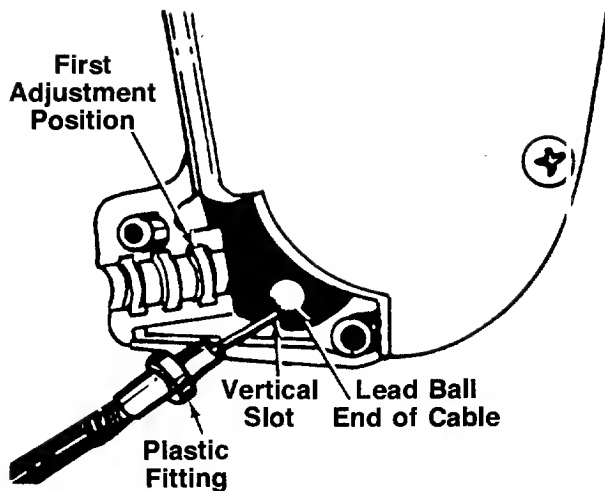

FIGURE 6.
1. Place the lead ball end of the cable into the fitting provided in the end of the clutch control lever. Slip the braided wire into the vertical slot as shown in figure 6.
3. Place the plastic fitting on the control cable into the first adjustment position in the clutch control housing. See figure 6.
When starting the unit for the first time, face the mower against a solid object such as a wall, fence, etc. Start the unit, and if it shows any signs of motion with the drive clutch control disengaged, shut the engine off immediately. Check the position of the drive clutch control cable. The plastic fitting must be assembled in the first adjustment position inside the housing, all the way to the right, as shown in figure 6.